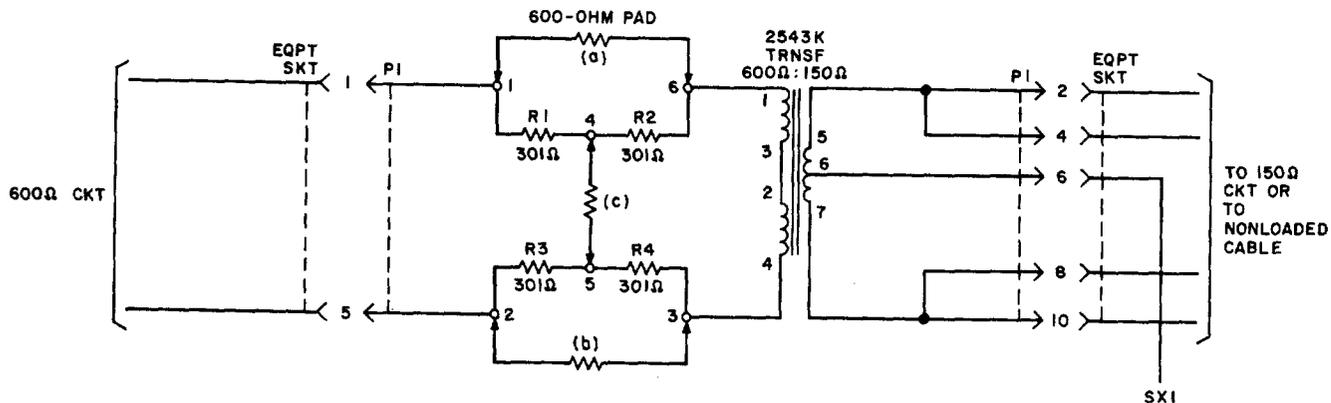

Fig. 2 — 849D Network — Schematic and Typical Circuit Connections
3.01 Fig. 2 is a schematic of the 849D network showing typical circuit connections. Transmission signals from a 600-ohm source are applied to terminals 1 and 5. Terminals 2 and 10 or 4 and 8 connect the output to nonloaded cable or to a 150-ohm circuit for matched load operation.